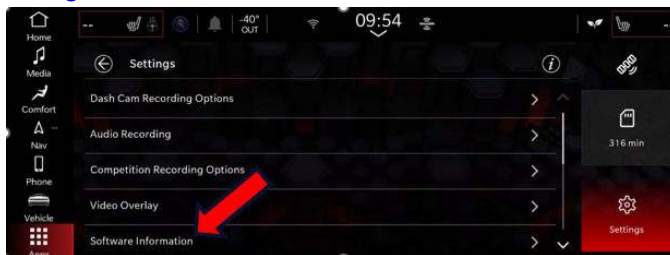

Fig. 5
- Click on Software Information Fig. 5.